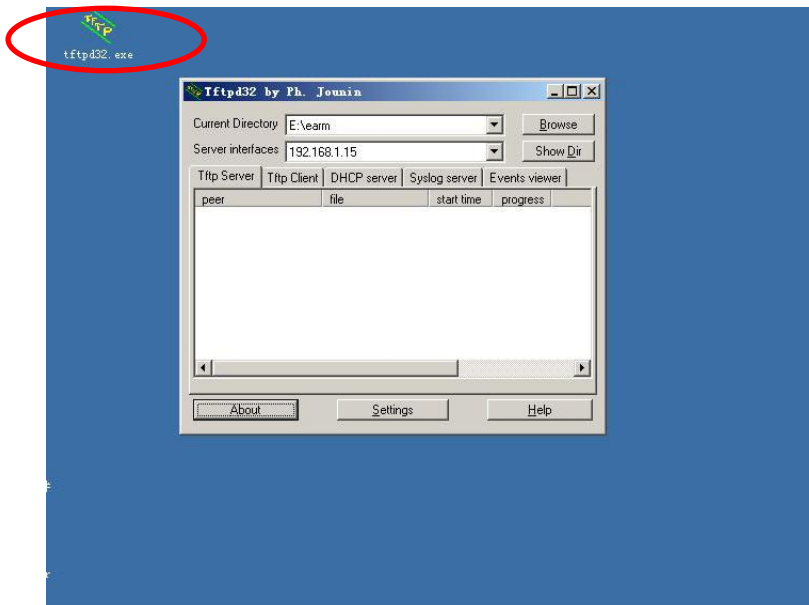

Figure 2.1
2.1 Double click on TFTP32. See Figure 2.1